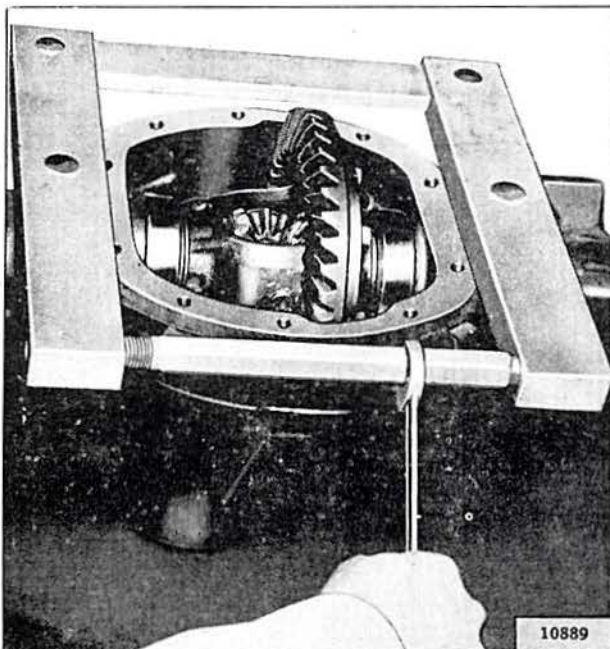

FIG. 239—DIFFERENTIAL CARRIER SPREADER
c. It is necessary to spread the carrier as the differential bearing has initial preload. Use Housing Spreader Tool W-129, as shown in Fig. 239, to spread the housing. Clamp on a dial indicator. From the side, measure the carrier spread. When the spreading force is applied, do not exceed a limit of .020" [0,50 mm.]. Remove the dial indicator. Carefully pry the differential case loose, using pry bars at the heads of the ring gear bolts and carrier casting.